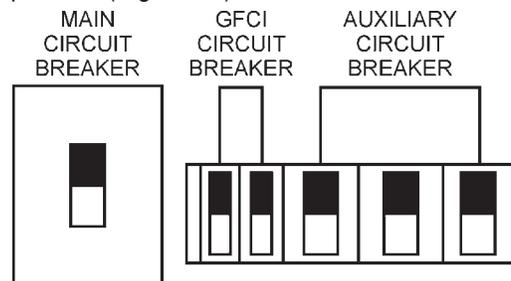

Figure 53. Main, Aux. and GFCI Circuit Breakers (ON)
17. Place the **main, GFCI, and aux.** circuit breakers in the **ON** position (Figure 53).